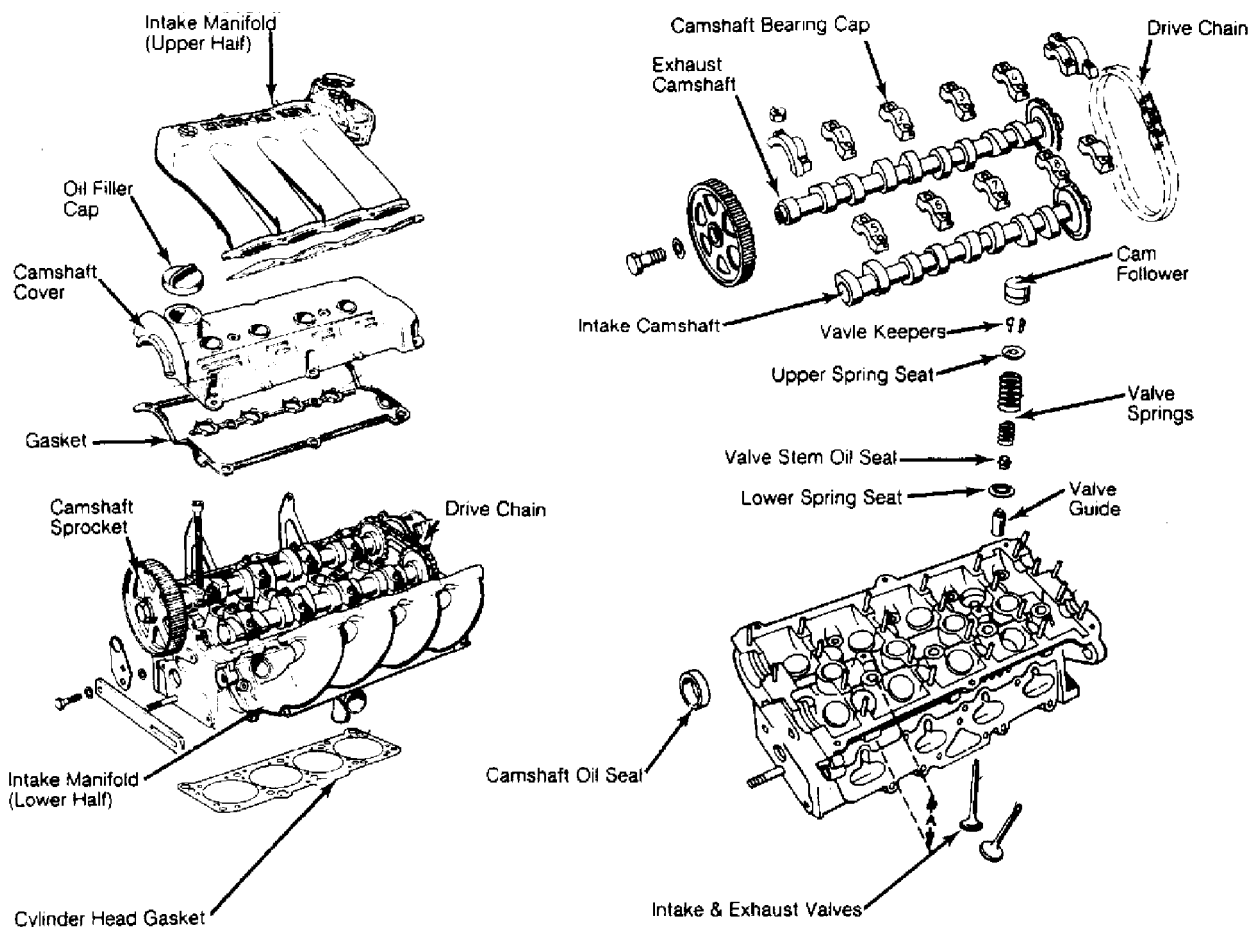

Fig. 6: Exploded View of Scirocco 16 Valve Cylinder Head Assembly
3) Label and disconnect all electrical and ignition wiring attached to cylinder head and intake manifold. On Scirocco 16-valve engine, remove upper half of intake manifold. See Fig. 6.
4) On Scirocco 16-valve engine, remove bearing caps No. 5 and No. 7 as well as drive chain end cap from intake camshaft. See Fig. 6. Slowly loosen nuts on bearing caps No. 6 and No. 8. Nuts must be removed alternately and diagonally.
5) Remove bearing caps No. 1 and No. 3 as well as end caps from intake camshaft. Slowly loosen nuts on bearing caps No. 2 and No. 4. Nuts must be removed alternately and diagonally. Remove bearing caps, camshafts, and drive chain. See Fig. 6.
3) On Scirocco 16-valve engine, remove upper half of intake manifold. See Fig. 6. On all models, remove camshaft cover. Turn engine crankshaft until both camshaft lobes of cylinder to be checked point upward. Push down on lifter with wooden stick. If lifter can be compressed more than .004" (.10 mm), it must be replaced.